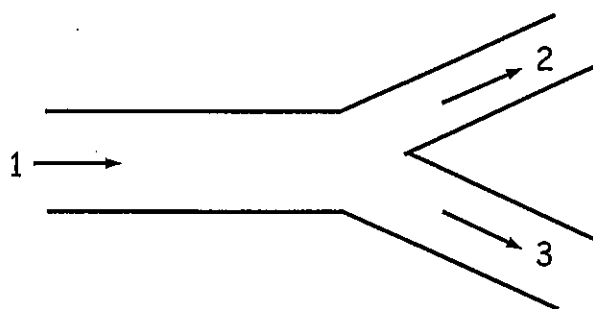

Figure 2/ Rajah 2
- c) Water flows through a pipe in **Figure 2** with diameter of 50 mm. Then the split into two, one of the pipes has a diameter 25 mm with the velocity of flow 0.4 m/s and the other one has a diameter 15 mm with the velocity 0.6 m/s. Calculate the velocity in the main pipe